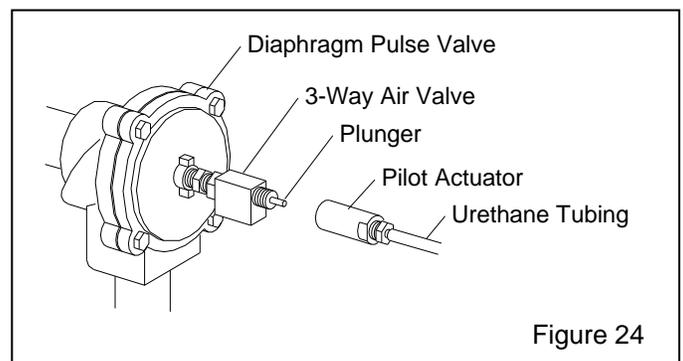

Figure 24
8.15.5 Check the diaphragm pulse valve and actuator assembly. Refer to Figure 24.